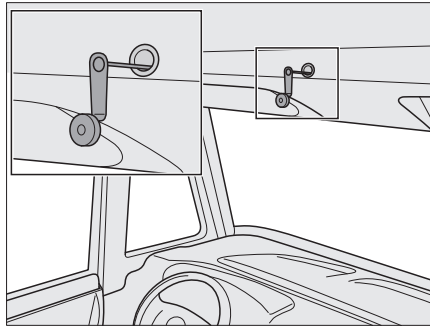

Fig. 172 Emergency operation for the electrical pull-down bed
- ▷ In the case of a power failure the electrical pull-down bed can also be moved with an emergency crank (Fig. 172). This is located in the kitchenette.